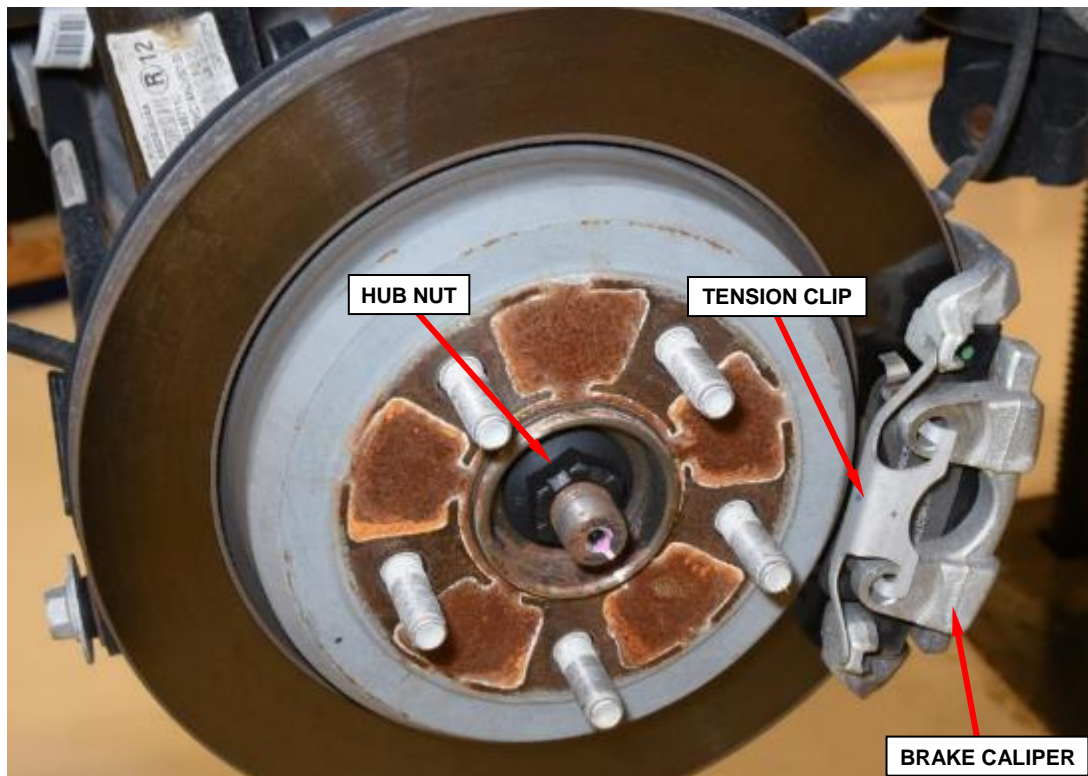

Figure 1 – Rear Hub and Brake Caliper
3. While a helper applies the brakes to keep the hub from rotating, remove the hub nut from the halfshaft and **discard**. **The used hub nut is not reusable** (Figure 1).
4. Remove and save the brake caliper tension clip by pressing forward on the clip to release the clip while pulling the clip away from the brake caliper (Figure 1).
34. Install the brake caliper tension clip to the brake caliper (Figure 1).
36. Install a **new** axle nut and while a helper applies the brakes to keep the hub from rotating. Tighten the nut to 310 N·m (229 Ft. Lbs.) (Figure 1).